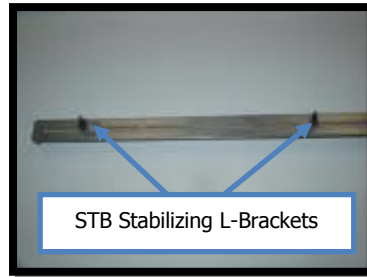

Figure 4.4. STB Shelf Assembly – STB Stabilizing L-Brackets.
- e. Take the remaining STB Securing Bracket with the securing tabs facing up and attach the (2) STB Stabilizing L-Brackets to the two outermost slots using (1) Phillips Head Screws per L-Bracket. See Figure 4.4 for reference.